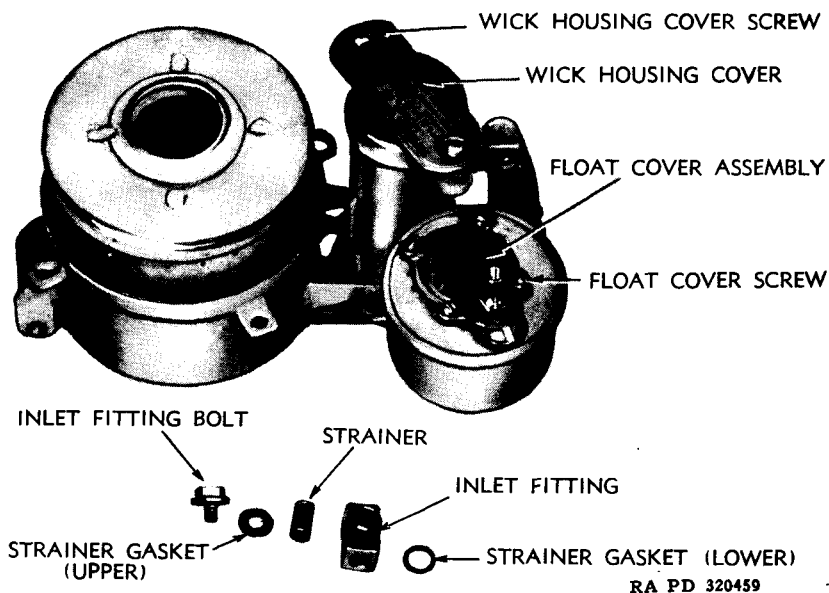

Figure 45 — Burner Assembly—Top View
c. **Remove Float Valve Assembly.** Remove inlet fitting bolt (fig. 45) and lift off upper strainer gasket, strainer, inlet fitting, and lower strainer gasket. Remove four screws and lock washers holding float valve assembly to burner assembly. Lift up and maneuver float valve assembly so as not to damage float while removing assembly. Unscrew and remove float valve seat, gasket, float valve, and float valve spring. Remove two screws and cover from wick housing.
c. Install Float Valve Assembly. Hold float valve seat with external threaded end up, and install a strainer lower gasket over threads. Then install needle valve into seat with drilled hole end up, and insert small spring into drilled hole. Turn float cover assembly right side up, screw valve assembly into bottom of float cover, and tighten securely. Install new float cover gasket onto float bowl. Install float assembly with four screws and lock washers (fig. 45). Install strainer lower gasket, inlet fitting, strainer, strainer upper gasket, and inlet fitting bolt (fig. 45).